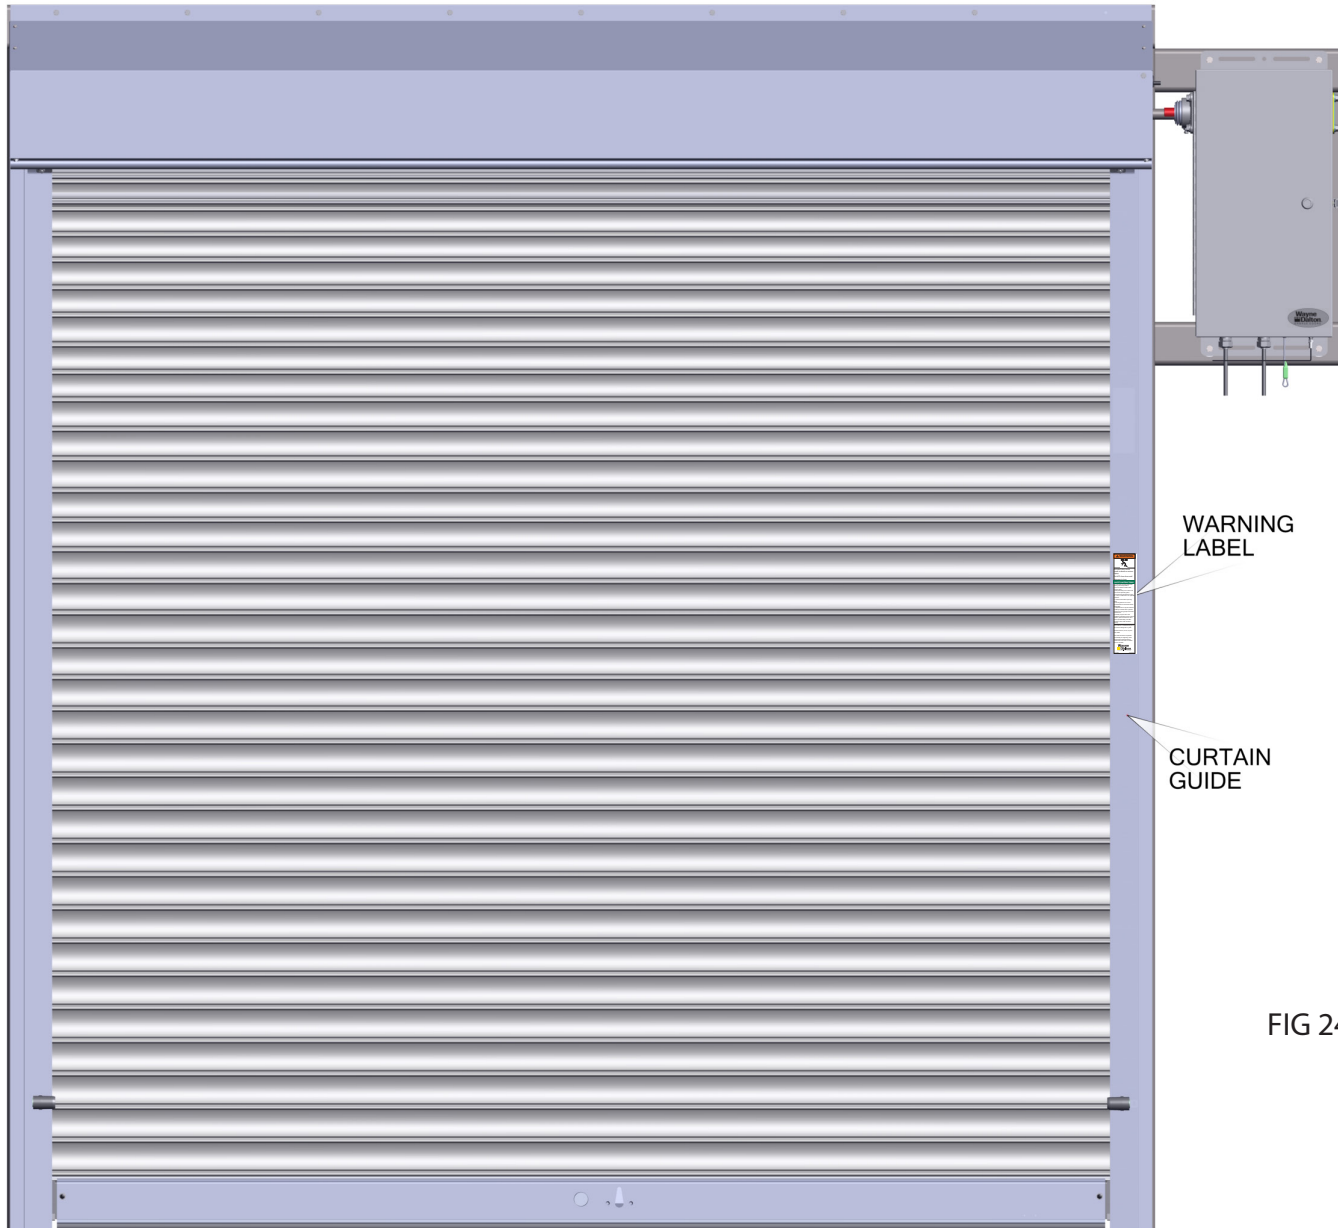

FIG 24
- Place warning label on drive side guide at eye level. See FIG 24.